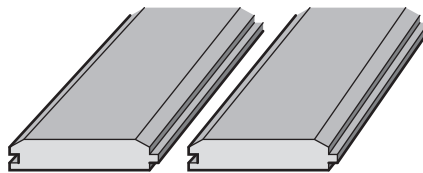

Fig. 5
- 8 Fig. 5 shows a method of joining two wooden boards.